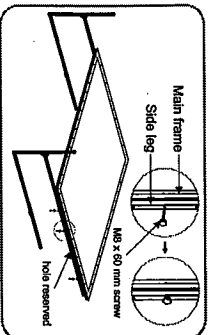

Figure 16
2. It is suggested to install the main frame on a flat ground. Put the completed legs besides the main frame short side and fix it to the main frame according to required screen height by means of M8 x 53 mm screw (Figure 16 - 17). (Note: Leave one hole on the main frame for the fastening of the M8 x 60 mm screw.)